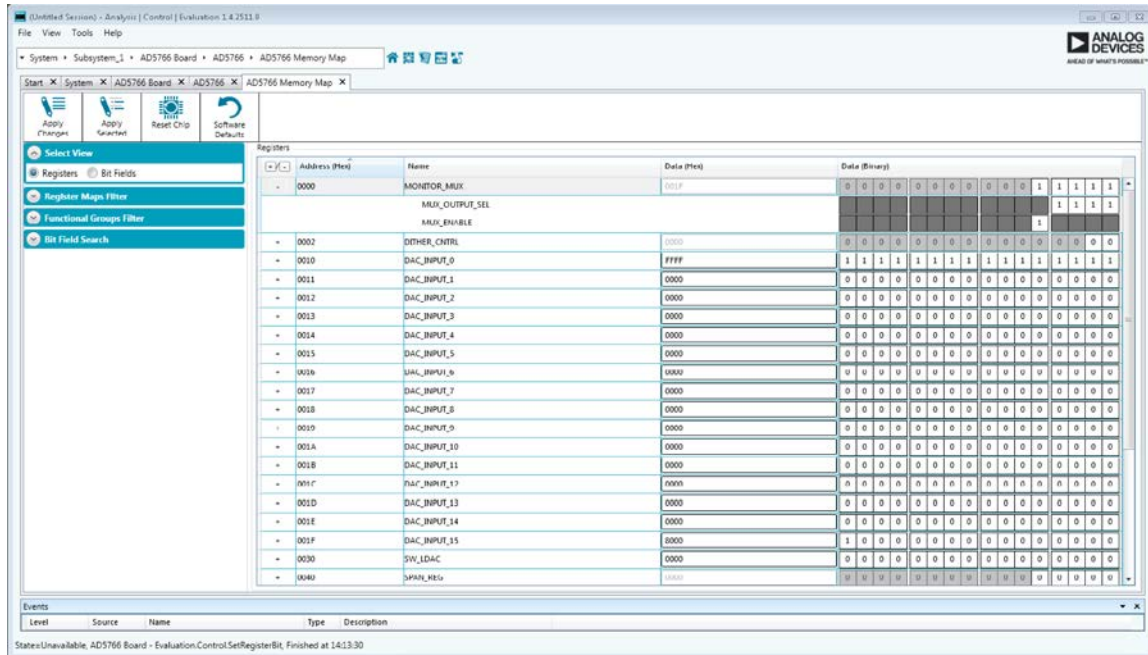

Figure 10. AD5767 Memory Map Tab for the EVAL-AD5767SD2Z ACE Software
4. Click the **Proceed to Memory Map** button (Label 12 in Figure 11) to open the **AD5767 Memory Map** tab and allow access to all registers (see Figure 10). The hardware registers on the AD5766/AD5767 are not altered until the **Apply Changes** button is clicked.